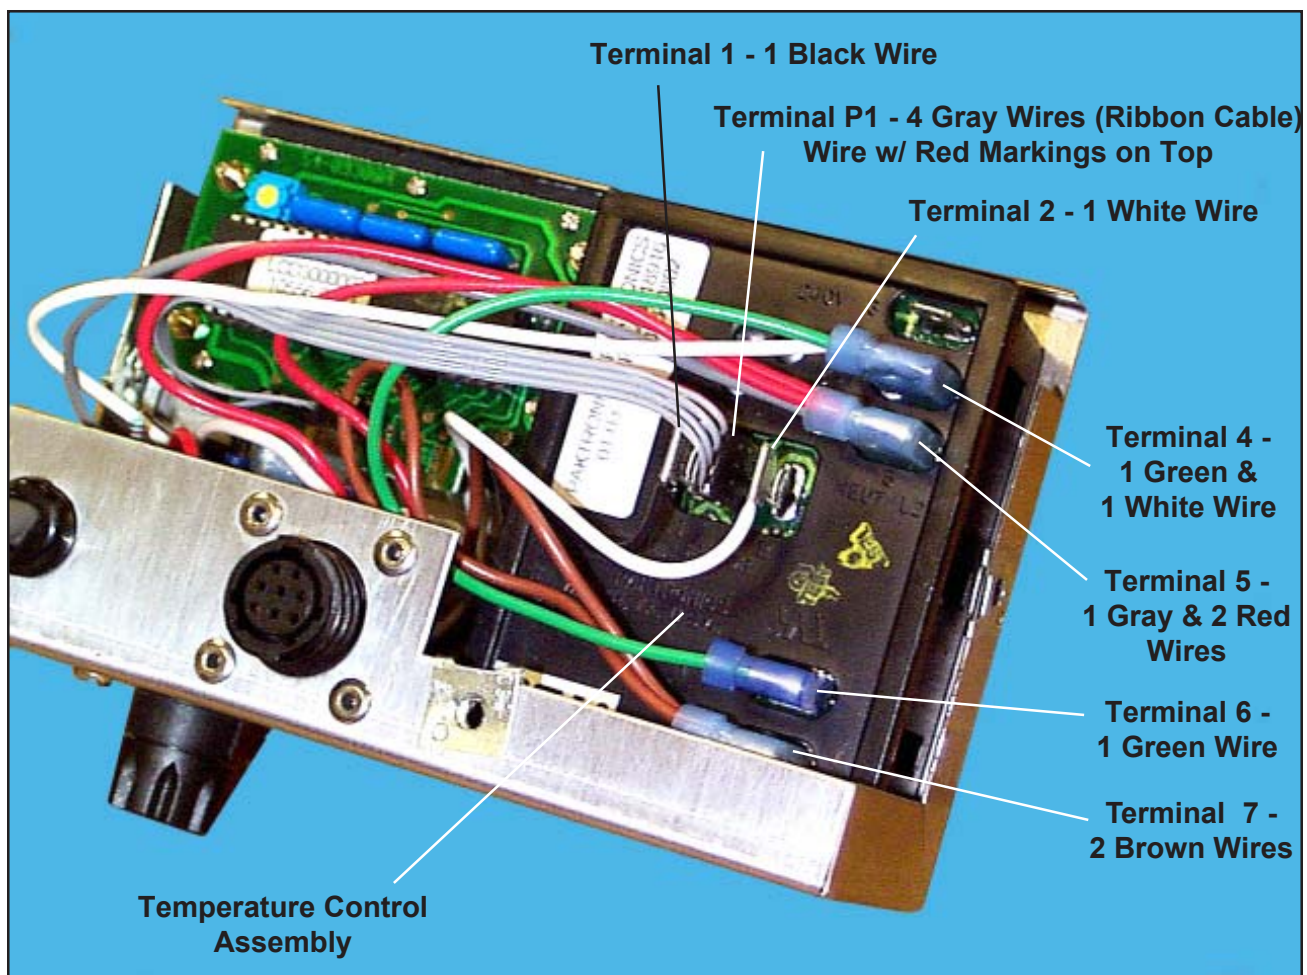

Figure 21. Wire Attachment Points on Temperature Control Assembly
In the next steps you will pull the wire connectors off the terminals on the rear of the temperature control assembly (Figure 21).
1. Place the new temperature control assembly into the heat controller. The shaft should go through the front of the controller, and the assembly should be oriented as shown in Figure 21.
3. Replace the connector (one black wire) onto Terminal **1** (Figure 21).